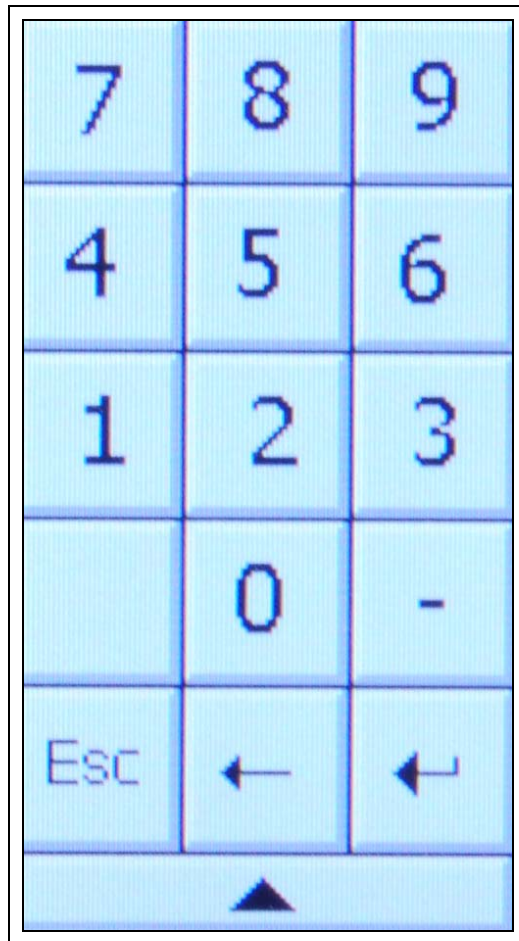

Figure 40 Help Menu Screen
2. In “Modify Spout Positioning” screen select the “0” key pad next to “OFFSET ALL”. A number keypad will display. (See Figure 40.)